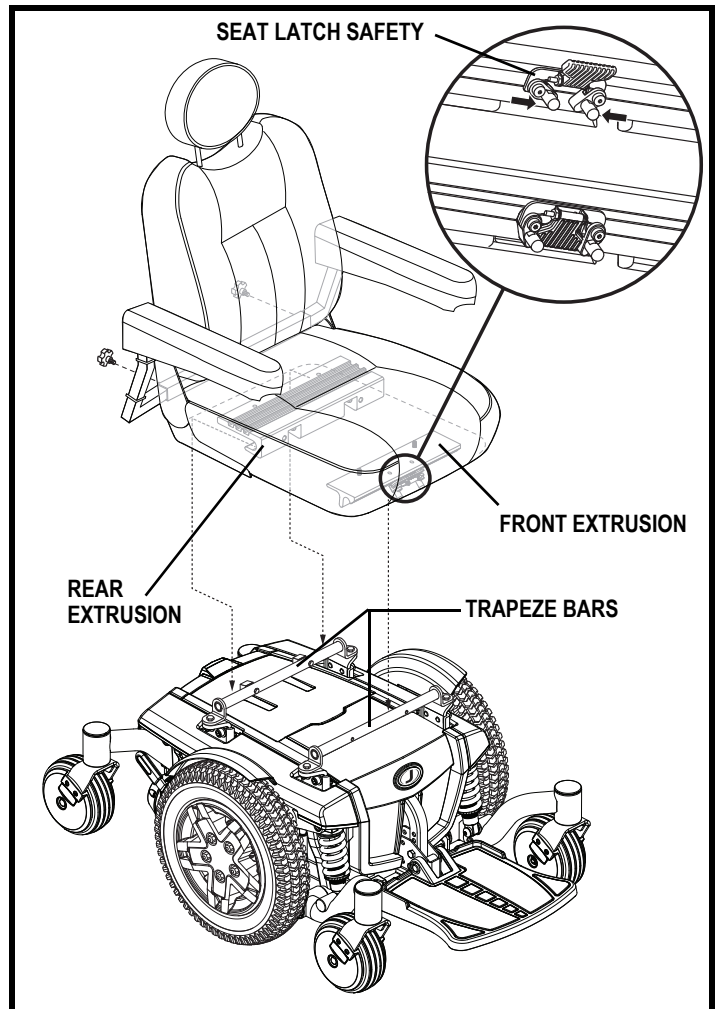

Figure 8. Seat Installation—Universal Mounting System
Most seats are attached to the power base with the Universal Mounting System (UMS). The UMS consists of universal parts that may be attached to the seat, regardless of seat width or seat depth. The two main components are aluminum extrusions mounted to the seat base. These extrusions attach to a pair of trapeze bars that are mounted to the power base. See figure 8.
1. Tilt the seat back and slide the rear extrusion onto the rear trapeze bar. See figure 8.
4. Flip up the seat latch safety. **See figure 8.**